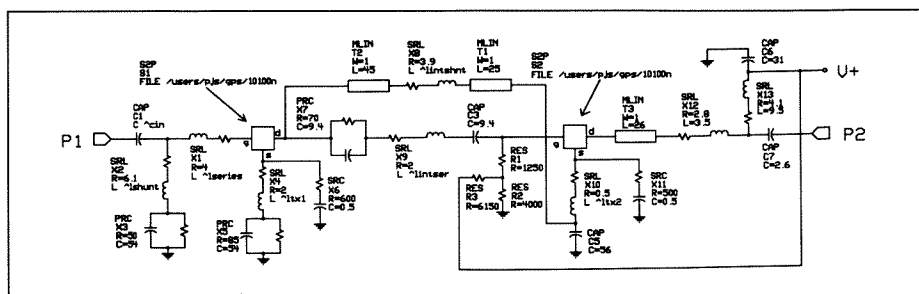

Figure 2. Matching and bias circuitry of the GPS LNA.
Due to the repeatable nature of the GMIC process, a lumped element matching approach was considered. This approach has an extreme size advantage over distributed elements at the frequency of interest (3). It also allows incorporation of the bias network into the matching structure. The matching structures were selected as shown in Figure 2 to achieve the desired matching for the circuit as well as provide DC and RF blocking elements for each stage. Resistive feedback was incorporated into the amplifier to ensure stability outside the frequency of operation without sacrificing gain and noise figure performance in the operating frequency range.